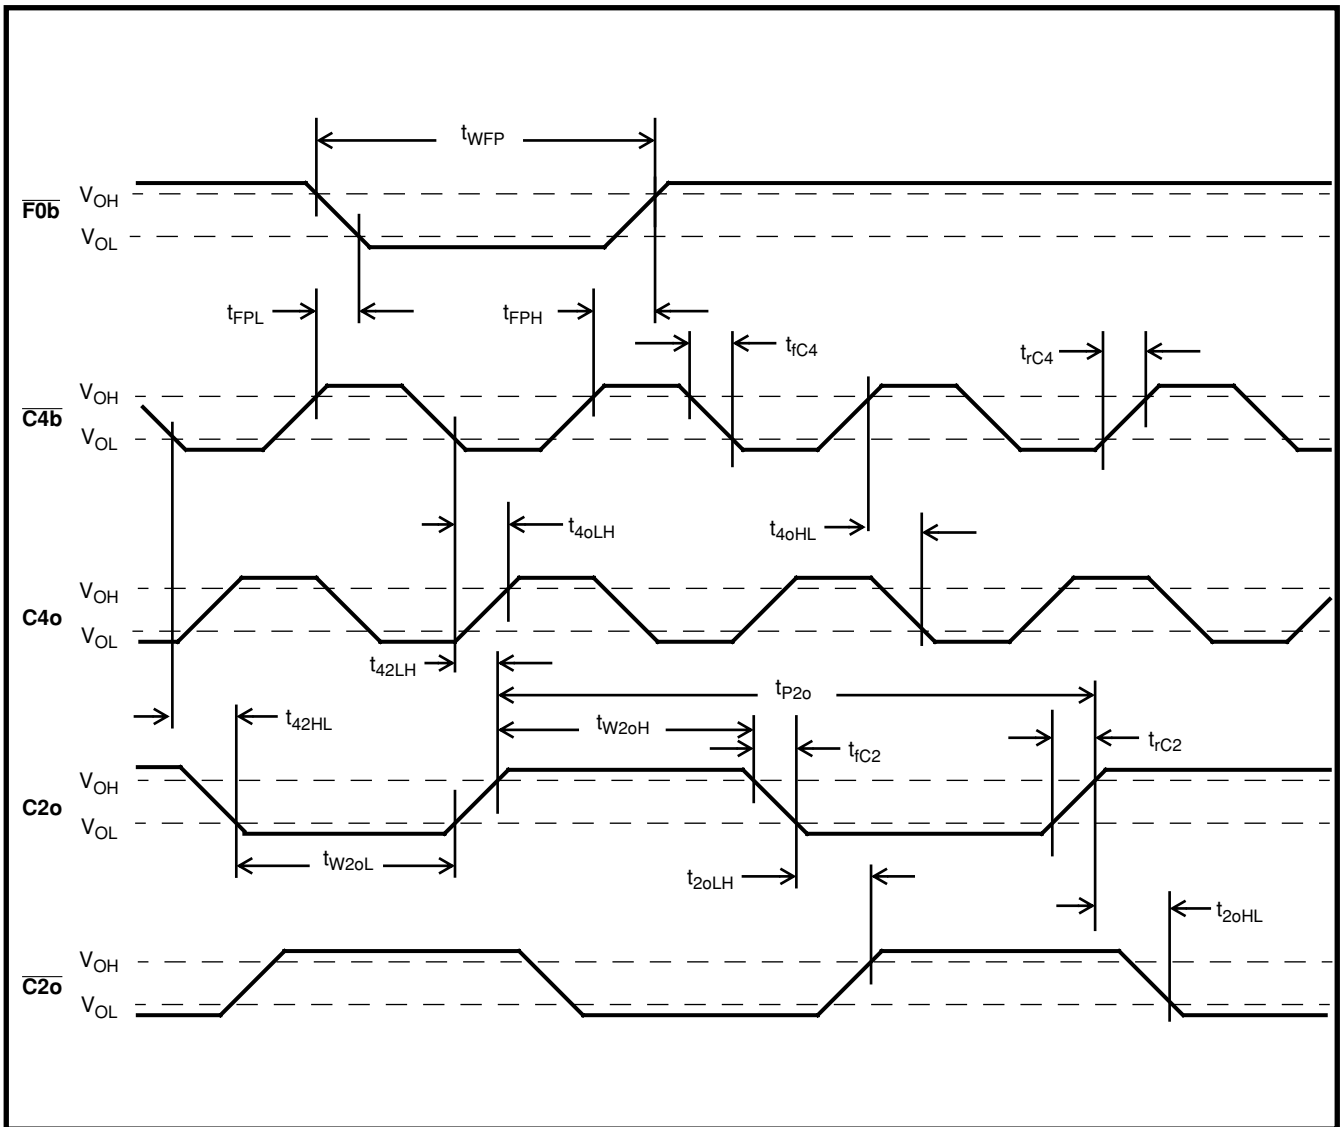

Figure 11 - Timing Information on DPLL #2 Outputs
**AC Electrical Characteristics**†-Voltages are with respect to ground ( $V_{SS}$ ) unless otherwise stated.(Ref. Figures 11&12)